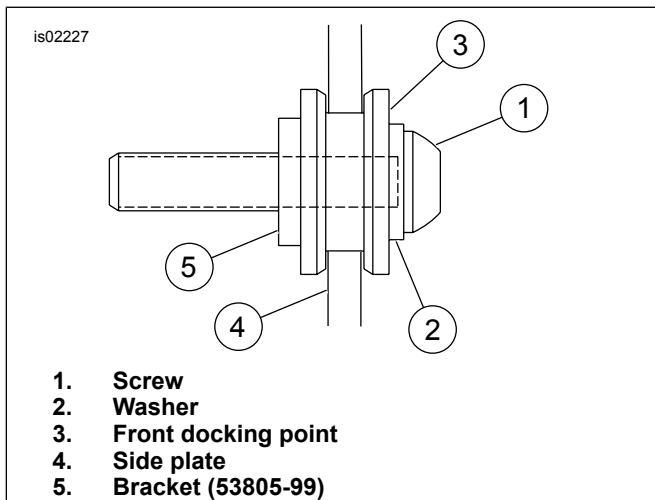

Figure 3. Side Plate and Front Docking Point Fully Engaged
- See Figure 3. While standing behind the motorcycle, place the front backrest notches into the front docking points. Make sure the notches seat fully into the front docking points.
The front and rear docking points must be fully engaged. See Figures 3 through 6 for correct engagement. If docking points are not fully engaged, it could shift position or come loose during operation.